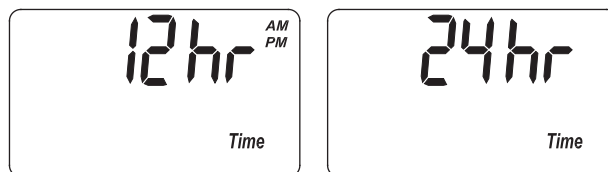

FIG. 31
1. Press and hold the PROGRAM button until the screen in Figure 29 is displayed. Once in this display, press the PROGRAM button five times and one of the two displays in Figure 31 is shown.